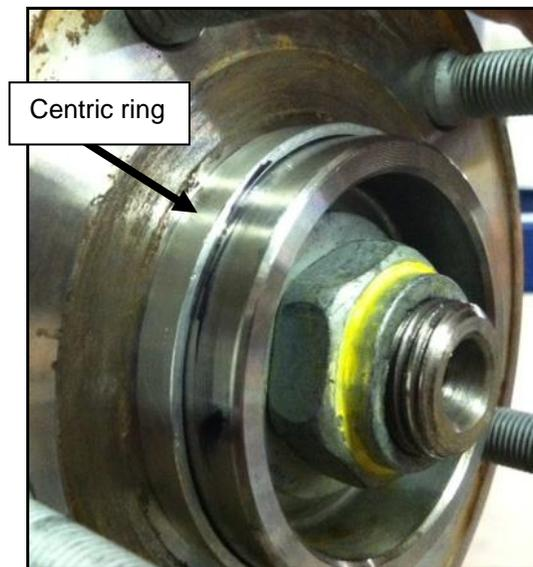

Figure 5: Photo shown with centric ring installed onto hub
5. Next, install the centric ring onto the hub (**for PRO system only**). This can be accomplished by simply sliding the ring over the hub snout until it sits firm against the hub face. ****Note:** Ensure the ring is centered and level when sliding it over the hub snout. See Figure 5 for reference: